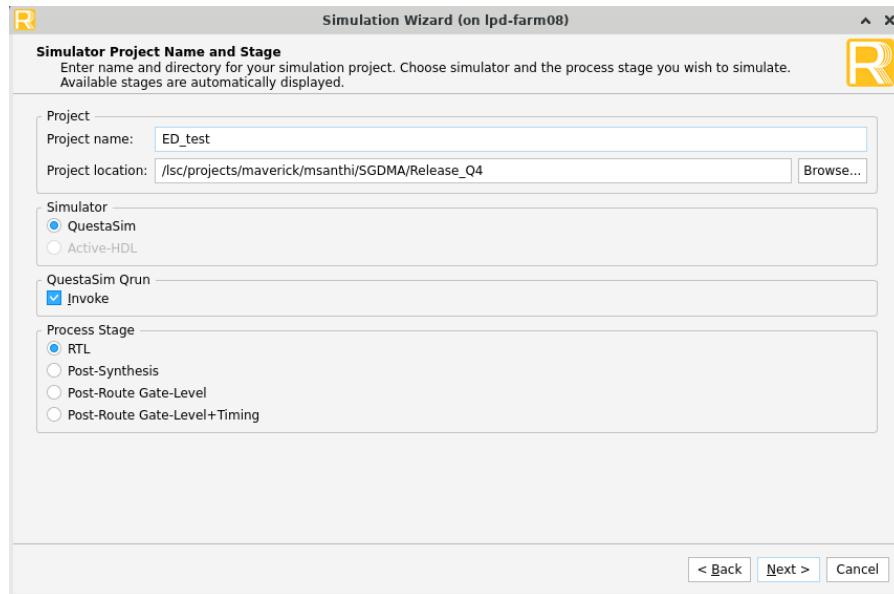

Figure 6.6. Simulation Wizard
1. Click the  button located on the **Toolbar** to initiate the **Simulation Wizard** as shown in Figure 6.6.